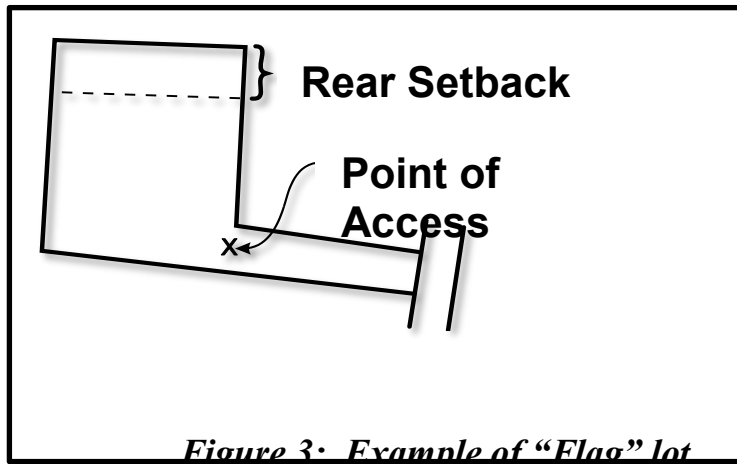

Figure 3: Example of “Flag” lot
- a) Normal Case: Determine a point where the access meets the main portion of the lot. The front property line adjoins the road, the point of access and the main portion of the lot. (Figure 3)
- a) Normal Case: The rear setback is opposite from the front property line. (Figure 3)